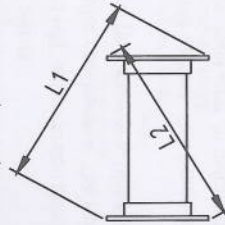

Fig.11 Rectangle duct
10) The absolute value of difference between diagonal lines of rectangle flange should be  $|L_1 - L_2| \leq 3$ , as shown in fig.11.